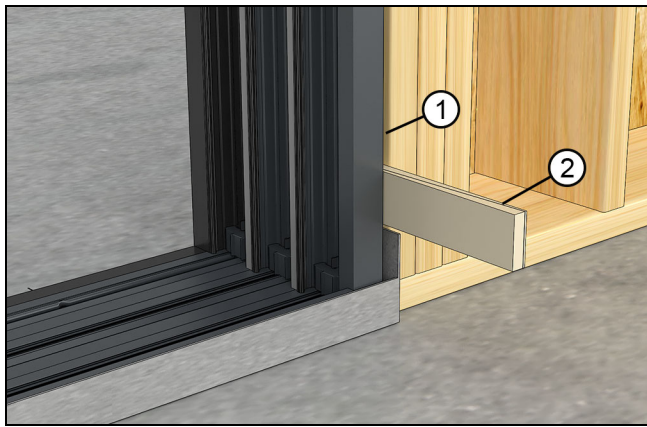

Figure 55 Center the frame and shim at stationary sill side
5. Center the frame in the rough opening and shim one corner at the bottom. See Figure 55.